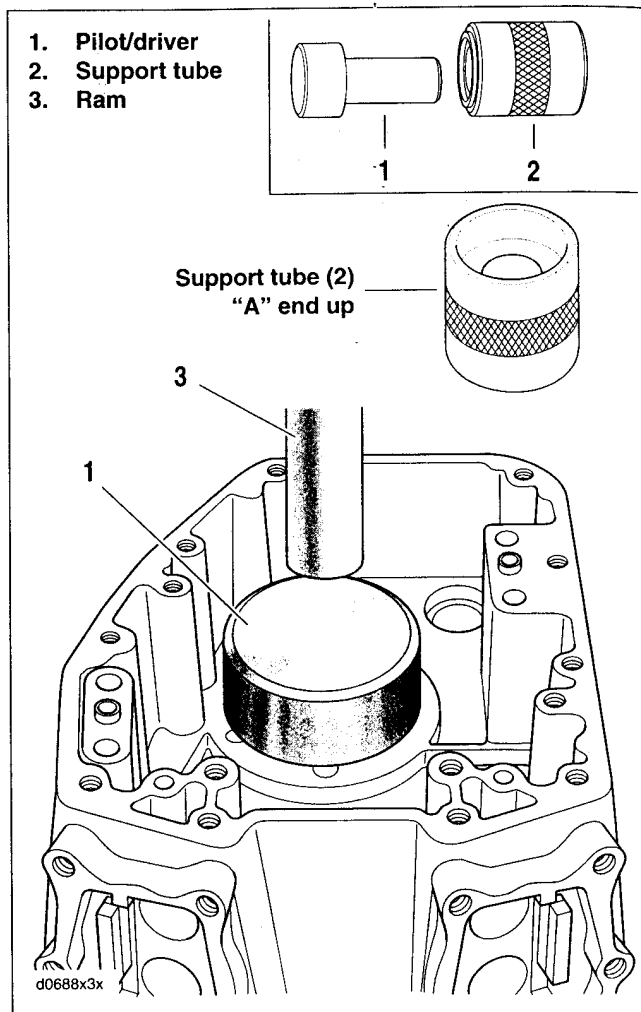

Figure 3-154. Crankshaft (Roller) Bearing Installation
1. See Figure 3-154. Obtain CRANKSHAFT (ROLLER) BEARING REMOVAL/INSTALL PILOT/DRIVER (Part No. B-45655) and CRANKSHAFT (ROLLER) BEARING REMOVAL/INSTALL SUPPORT TUBE (Part No. HD-42720-5).
2. Place support tube (2) on hydraulic press table with the "A" end up. Note that the sides of the support tube are stamped "A" and "B" to ensure proper orientation.
4. Slide pilot/driver (1) through bearing into support tube.
5. Center pilot/driver under ram (3) of press. Apply pressure to pilot/driver until bearing is free.